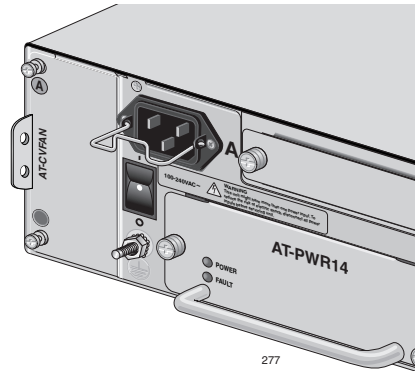

Figure 17. Retaining Clip Properly Installed in the Bracket
4. Verify that the retaining clip is in the correct position, as shown in Figure 17.